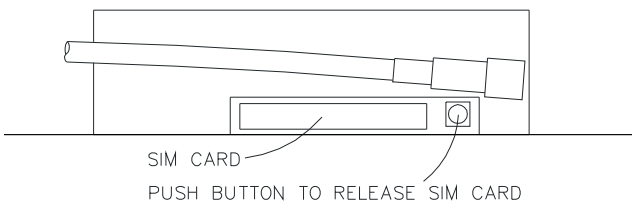

Figure 27 Rear View of ModemModule
- You will see a silver Modem Module on the circuit board. On the edge closest to you is where you will find the SIM card holder (Figure 27 below).